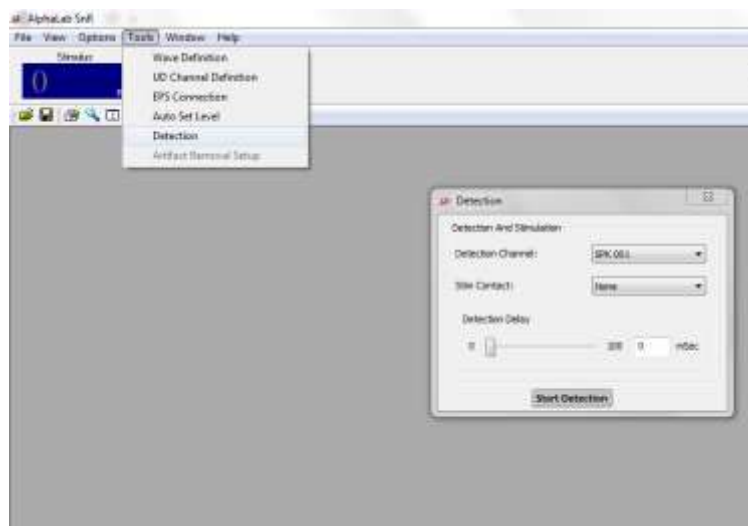

Figure 70: detection window
- a. Go to tools\ detection (*Figure 70*)